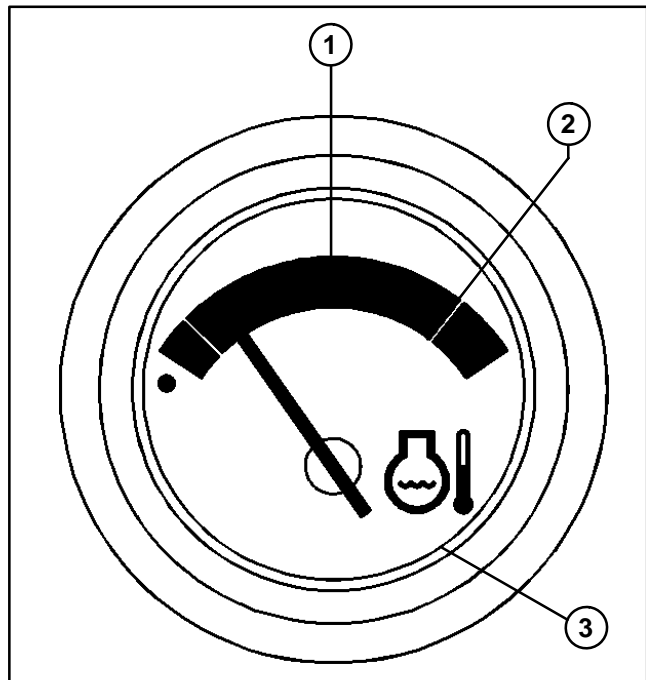

Figure 41
2. Take test point readings (Fig. 41).